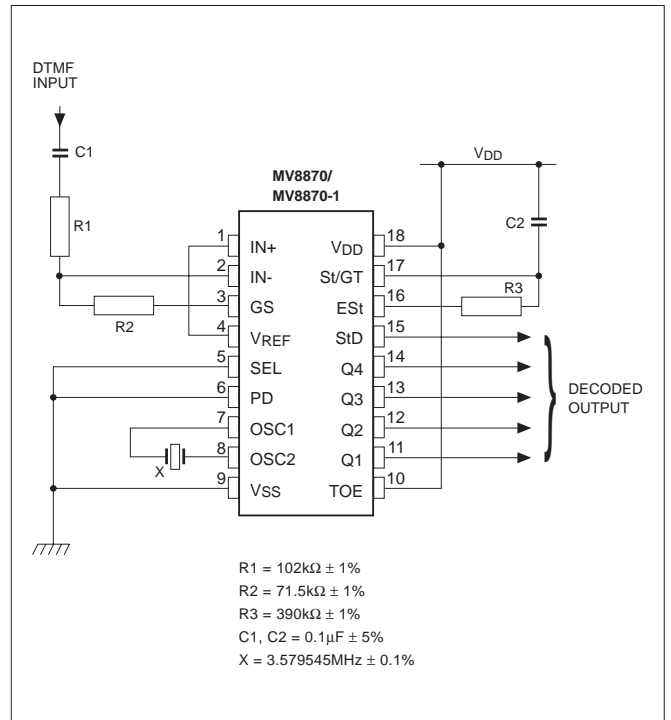
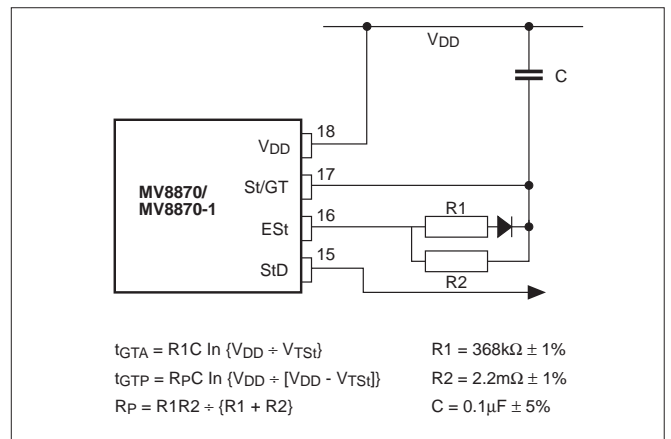

Figure 11: Single ended circuit for BT/CEPT Specs
Figure 12: Non-symmetric guard time circuit
The circuit shown in Fig.11 illustrates the use of the MV8870-1 in a typical receiver system. The BT specification defines the non-operate level as input signals below 34 dBm. This is obtained by choosing R1 and R2 to give 3dB of attenuation so that an input of 34 dBm corresponds to -37 dBm at the op. amp. output pin (GS). The tolerances on R3 and C2 give a tolerance on guard time of 6%. For better performance the non-symmetric guard time circuit shown in Fig.12 is recommended.